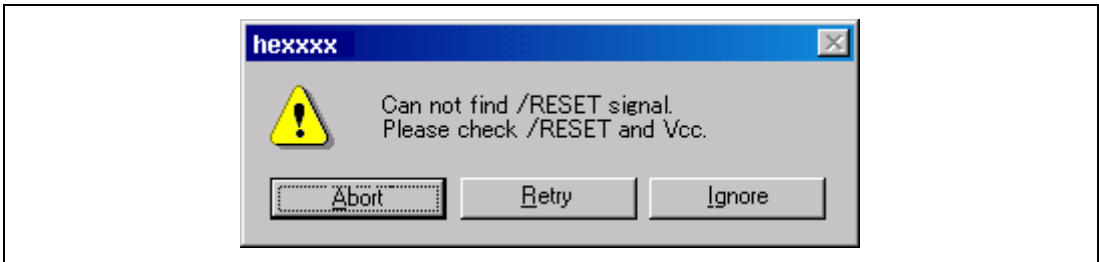

Figure 3.50 [Can not find /RESET signal] Dialog Box
- Notes: 1. If the emulator is not initiated, the following dialog boxes shown in figures 3.50 through 3.56 will be displayed.